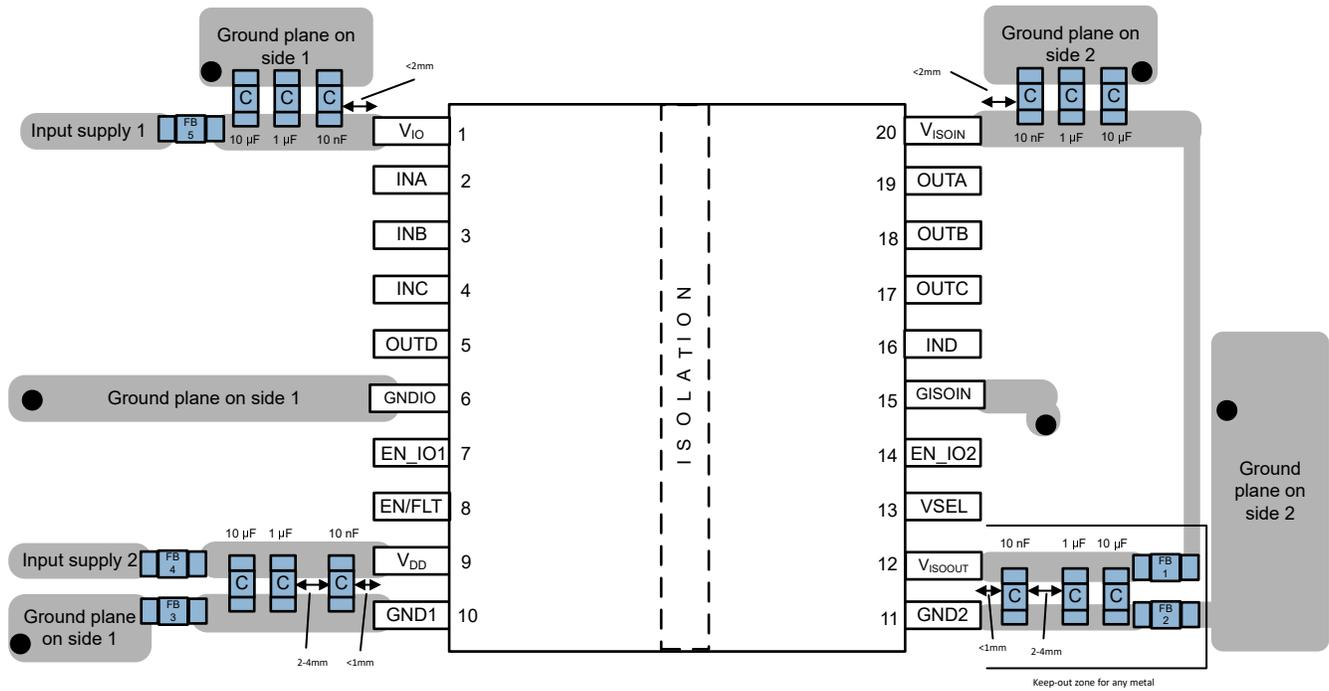

图 12-1. Layout Example
**Figure 12-1** shows the recommended placement and routing of device bypass capacitors. Below guidelines must be followed to meet application EMC requirements: